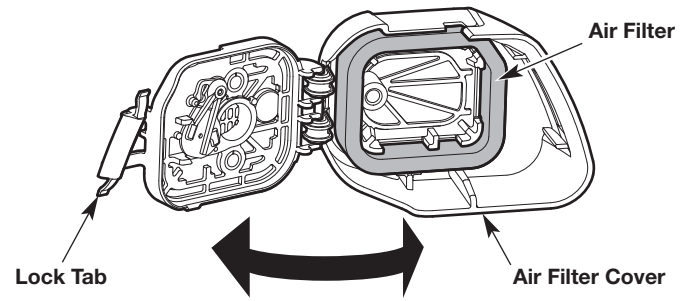

Fig. 27
1. Open the air filter cover: press in the lock tab and swing the air filter cover to the right (Fig. 27).
2. Remove the air filter from inside the air filter cover (Fig. 27).
6. Reinstall the air filter inside the air filter cover (Fig. 27).
7. Close the air filter cover: swing the air filter cover to the left and press it closed until the lock tab snaps into place (Fig. 27).